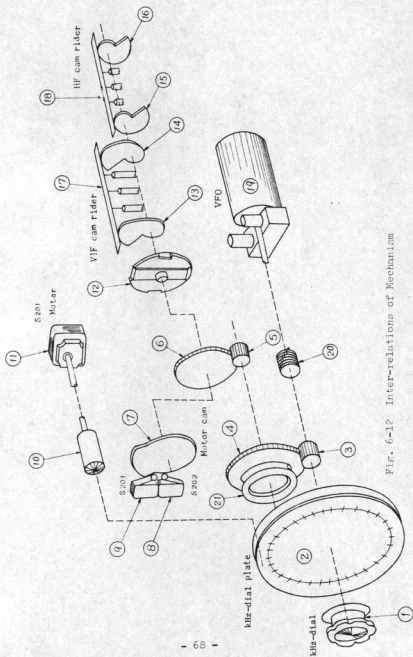
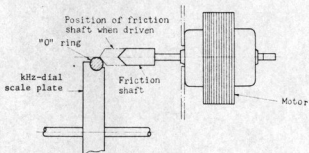

Fig. 6-12 Inter-relationships of Mechanism
Fig. 6-13
This mechanism drives the VFO and the cam rider interlocking with the kHz-dial. See Fig. 6-12. ① is the kHz-dial knob. On the same shaft of ① are kHz-dial scale plate ②, gear ③, ten-turn stopper ②① and VFO ①⑨. The rotation of the kHz-dial is connected to the shaft of cams ①③, ①④, ①⑤ and ①⑥, all coupled by coupling ①②, via gears ④, ⑤ and ⑥. The rotation also produces the rotation of motor cam ⑦ at the same time, with a gear ratio of 1: 11. Ten revolutions of ① displaces cam riders ①⑦ and ①⑧ by 25.4 mm through cams ①③, ①④, ①⑤ and ①⑥. Thus the core connected to the cam riders is moved in and out thereby changing the inductance of the variable pitch coil. The VFO frequency 3.455 MHz - 2.455 MHz changes linearly through the ten rotations of ①,
In Fig. 6-12, ⑪ is the motor and ⑩ is the friction shaft connected to the motor shaft. When the motor starts rotating, the motor shaft projects as shown in Fig. 6-13 to make the rollet at the friction shaft tip to contact with the "0" ring fringe, thus producing the kHz-dial rotation.
To prevent the kHz-dial from colliding with the stopper at the end of the dial, a stop mechanism using micro-switches ⑧ and ⑨ and cam ⑦ is provided. S201 and S202 in Fig. 6-12 are the microswitches. When micro-switch ⑧ (S202) or ⑨ (S201) is turned off by means of cam ⑦, the motor cannot be rotated in the same direction even though the "AUTO" button is pushed. It will rotate only when the button is pushed in the reverse direction.